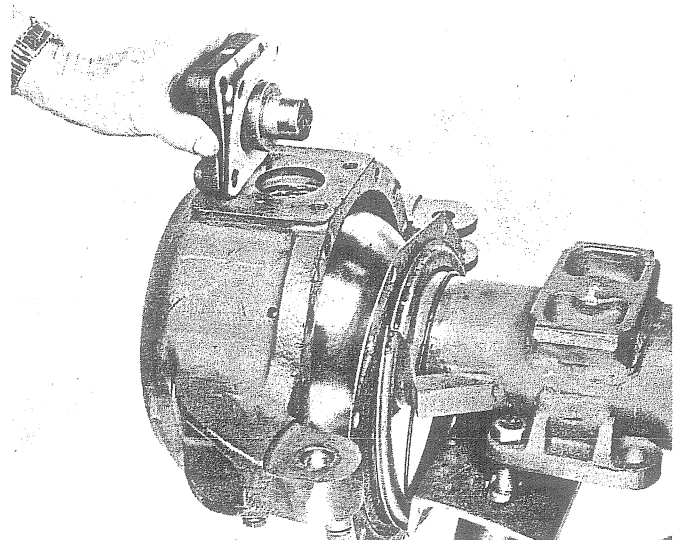

Fig. 93 - Installing Trunnion and Shims
13. Remove upper trunnion and add the number of shims required for correct preload (as determined in step No. 12). Reinstall upper trunnion and shims. See Fig. 93. Tighten trunnion retaining bolts to 80-90 ft.-lbs. torque. Recheck preload with spring scale to make certain that it is between 12-18 lbs.